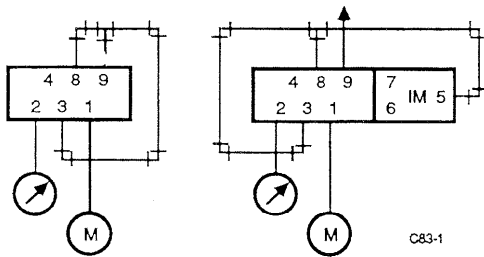

Fig. 5. Connections for Operating Point Check-RP920A and B.
1. Pipe the connections (Fig. 5). Install Barb Fitting 14003755-001 in Port 8.